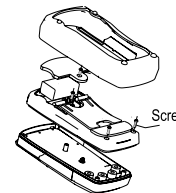

figure 11
B. Replacing the Fuses (see figure 11)